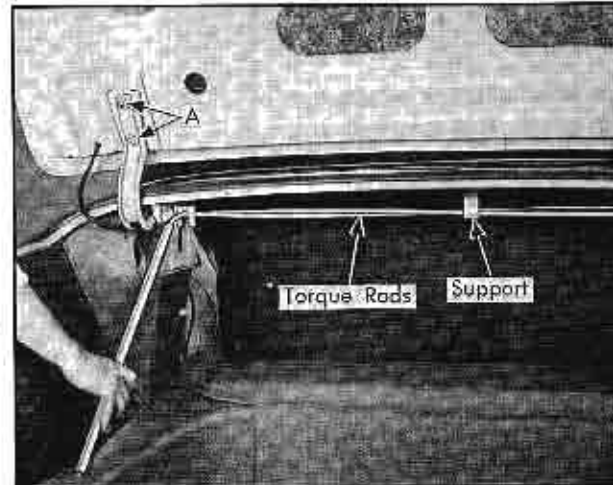

Fig. 3-81 Disengaging Deck Lid Torque Rod
2. Scribe location of the hinge strap on the rear compartment lid inner panel and remove two bolts "A", securing the lid to the hinge strap. Fig. 3-81.
4. Using a suitable length of pipe, disengage the torque rod for the hinge to be removed from the retaining notches located at the inboard face of the opposite hinge box. Fig. 3-81.